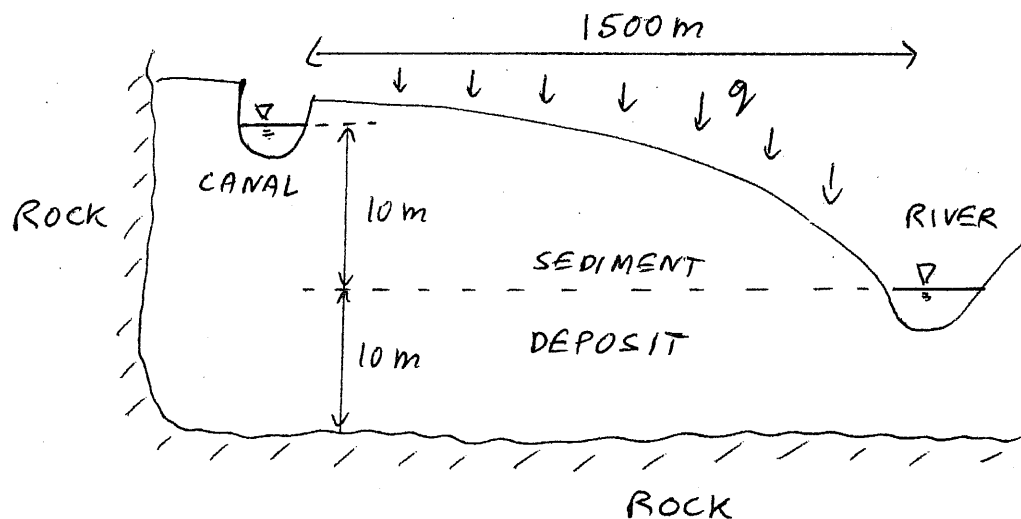

FIGURE 6
6) A long, straight river flows in a long, straight area of deposited sediment that is bounded below and on both sides by impervious rock as shown in Figure 6. The deposited sediment is homogenous and isotropic and has a permeability of 2.5 m/day . The area is recharged at an average rate of $q \text{ mm/day}$ due to the infiltration of rainfall.